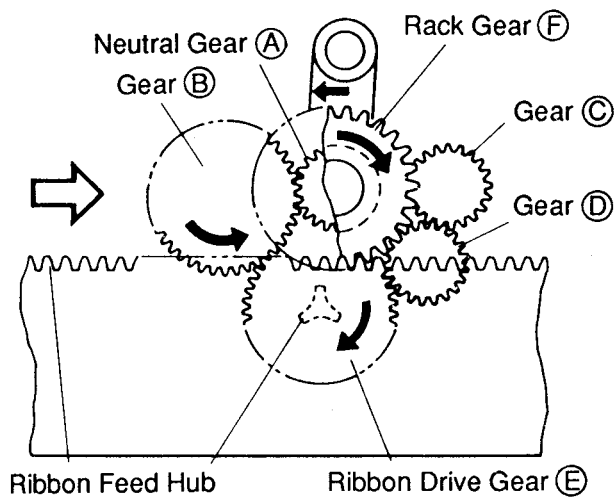

Fig.2 (Bottom View)
When the carriage moves to the left (Fig.2), rack gear (F) turns neutral gear (A) clockwise. Neutral gear (A) then engages with gear (B) which turns ribbon drive gear (E) clockwise with the hub.